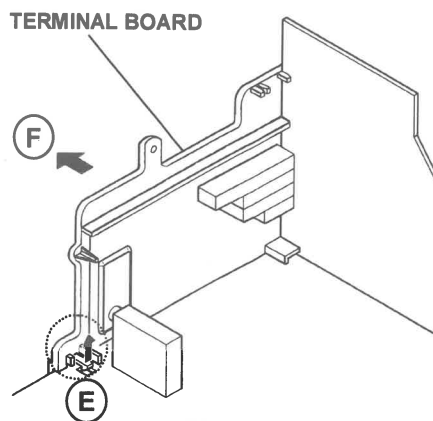

Fig. 1
- 2. After removing the claw marked (E) in the direction of arrow mark as shown in Fig.1.
- 3. When you pull out the TERMINAL BOARD in the direction of arrow marked (F) as shown in Fig.1, it can be removed.
(1) Power off Switch off the power and disconnect the power cord from the outlet.
(2) Replace the memory IC Initial value must be entered into the new IC.
(3) Power on Connect the power cord to the outlet and switch on the power.
(4) System constant check and setting <ol style="list-style-type: none"> 1) Press the SLEEP TIMER key and set SLEEP TIMER for 「0 min」. 2) Before disappear the display of SLEEP TIMER settings, simultaneously press the DISPLAY key and VIDEO STATUS key of the remote control unit. 3) The SERVICE MENU screen of Fig.1 is displayed. 4) While the SERVICE MENU is displayed, again simultaneously press the DISPLAY and VIDEO STATUS keys to display the SYSTEM CONSTANT screen in Fig.2. 5) Refer to the SYSTEM CONSTANT table and check the setting items. Where these differ, select the setting item with the MENU UP/DOWN key and adjust the setting with the MENU LEFT/RIGHT keys. (The letters of the selected item are displayed in yellow.) 6) After adjusting, release the MENU LEFT/RIGHT key to store the setting value. 7) Press the EXIT key twice to return the normal screen. 	<div style="text-align: center;"> SERVICE MENU  </div> <p style="text-align: center;">Fig.1</p> <div style="text-align: center;"> SYSTEM CONSTANT  </div> <p style="text-align: center;">Fig.2</p>
(5) Receive channel setting Refer to the OPERATING INSTRUCTIONS (USER'S GUIDE) and set the receive channels (Channels Preset) as described.
(6) User settings Check the user setting items according to Table 2. Where these do not agree, refer to the OPERATING INSTRUCTIONS (USER'S GUIDE) and set the items as described.
(7) SERVICE MENU setting Verify what to set in the SERVICE MENU, and set whatever is necessary. (Fig.1) Refer to the SERVICE ADJUSTMENT for setting.